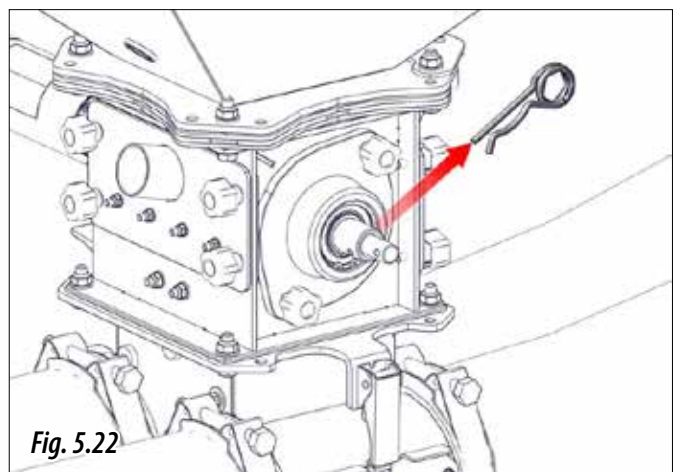

Fig. 5.22
- 5- Remove the R-clip (Fig. 5.22).